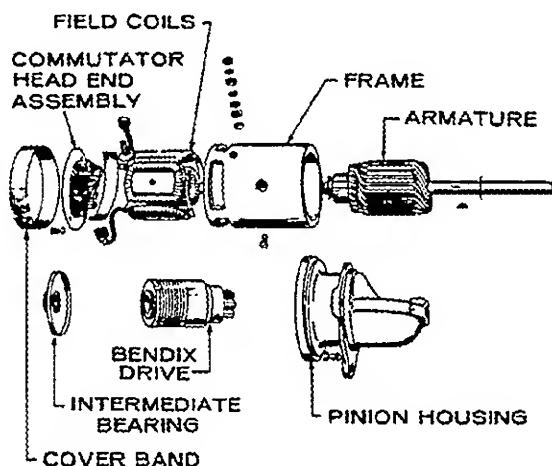

FIGURE 47. GEAR DRIVE STARTER (OPTIONAL)
6. Gear Drive Starter Only: The entire assembly is mounted on the armature shaft. When disassembling the starter, pay particular attention to the various parts and their positioning in the starter assembly, Figure 47. If the gears of the pinion are damaged, replace the entire pinion. Inspect the screw shaft for rust and burrs.